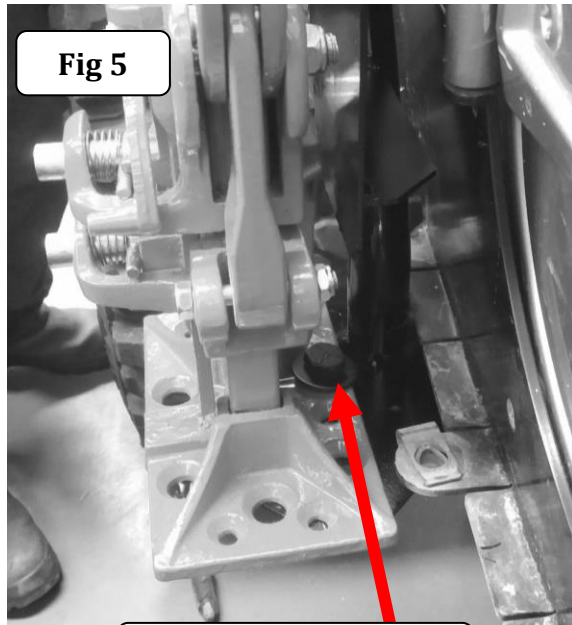

Fig 5
**Step-7** Open the jack mount case, place the jack into the jack mount case and onto the jack mount bracket. Align the hole in the jack base with the hole in the jack mount bracket and attach it using (1) 1/2" x 1" button head screw and (1) 1/2" hex nut, (Fig 5). Securely tighten the 1/2" screw. Close the jack mount case.